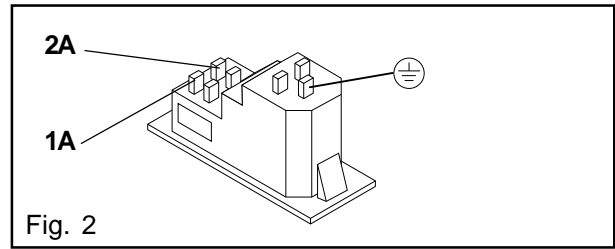

Fig. 2
- Connect the earthed conductor (fig. 2) from the mains connection to the left housing side (flat plug on top, rear side).